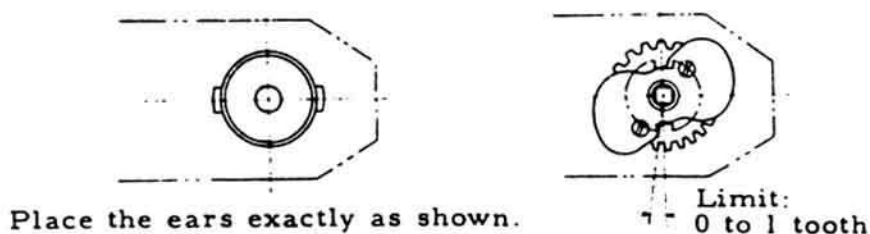

Fig. 11
- 6) Setting Winding Shaft as shown in Fig. 11, install Winding Gear unit.